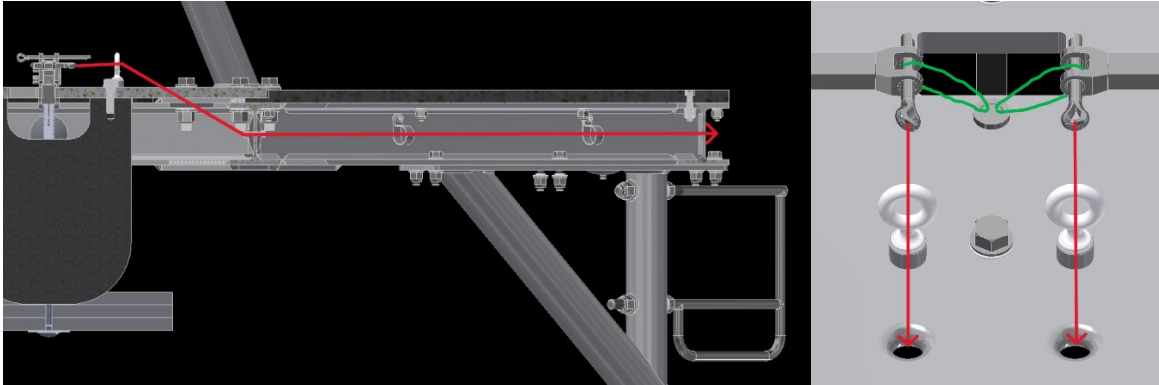

FIGURE 2: Pull-pin line routing and release setup.
1. Tie off flattened pull-pins to nylon pull-lines, and run lines through the frame corners, loop guides, and up through the fiberglass eyebolts (Figure 2). Ensure there is little/no slack in the pull-lines & tie a knot (or use a washer) at the free end of each line to prevent slacking. Tie a polypro loop handle to the nylon line and secure it to the corner of the elevator with rubber bands.